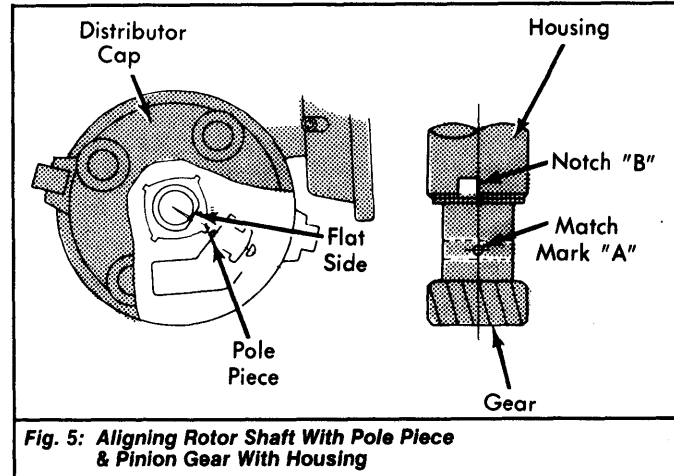

Fig. 5: Aligning Rotor Shaft With Pole Piece & Pinion Gear With Housing
- 3) When installing pick-up coil, adjust air gap to specifications. Position rotor shaft so flat side is centered on pole piece of pick-up coil. See Fig. 5.
- 4) Align match mark "A" on pinion gear with right side of notch "B" on lower end of housing. See Fig. 5. After assembly, check centrifugal advance by using a distributor tester.